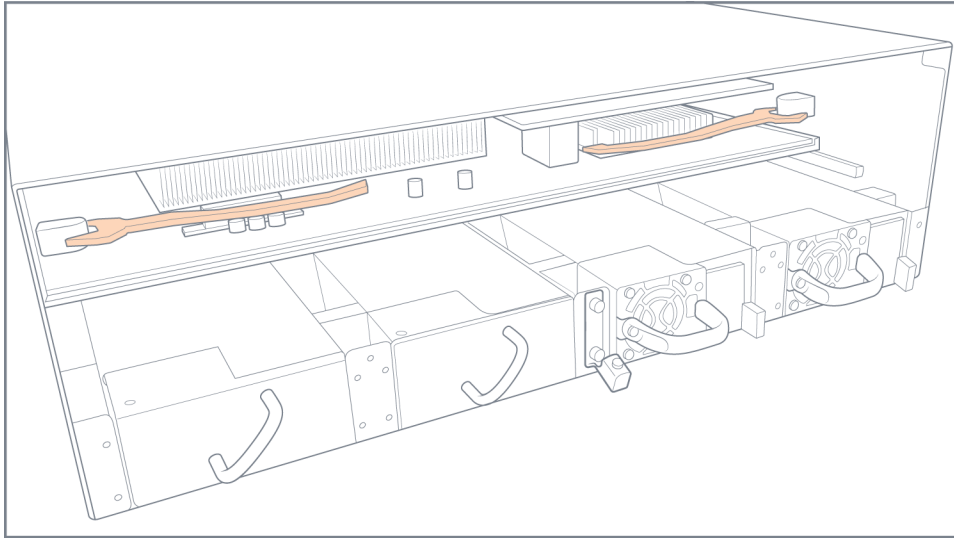

Figure 17 Control Card Location
3. Remove the fan tray as described in Removing a Fan Tray. The control card is located behind the fan tray, as shown in Figure 17 Control Card Location.